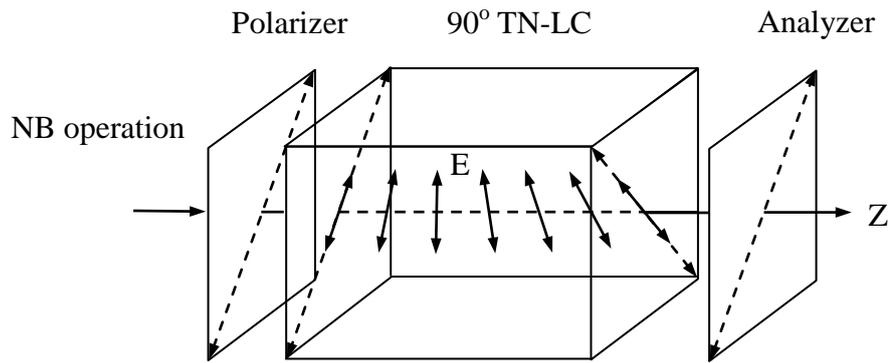

Fig. 9 NB mode operation of a 90° TN cell
When a linearly polarized light traverses through a 90° TN cell, its polarization follows the twist of the LC directors (polarized light sees n_e only) so that the output beam remains linearly polarized except for that its polarization axis is rotated by 90° (it's called the polarizing rotary effect by n_e ; similarly we can also find polarizing rotary effect by n_o). Thus, for a normally black (NB) mode using a 90° TN cell, the analyzer's (a second polarizer) transmission axis is set to be parallel to the polarizer's transmission axis, as shown in Fig. 9. However, when the applied voltage V across the LC cell exceeds a critical value V_c , the director of LC molecules tends to align along the direction of applied external electrical field which is in the direction of the propagation of light. Hence, the polarization guiding effect of the LC cell is gradually diminishing and the light leaks through the analyzer. Its electro-optical switching slope γ is defined as $(V_{90} - V_{10})/V_{10}$, where V_{10} and V_{90} are the applied voltages enabling output light signal reaches up to 10% and 90% of its maximum light intensity, respectively.